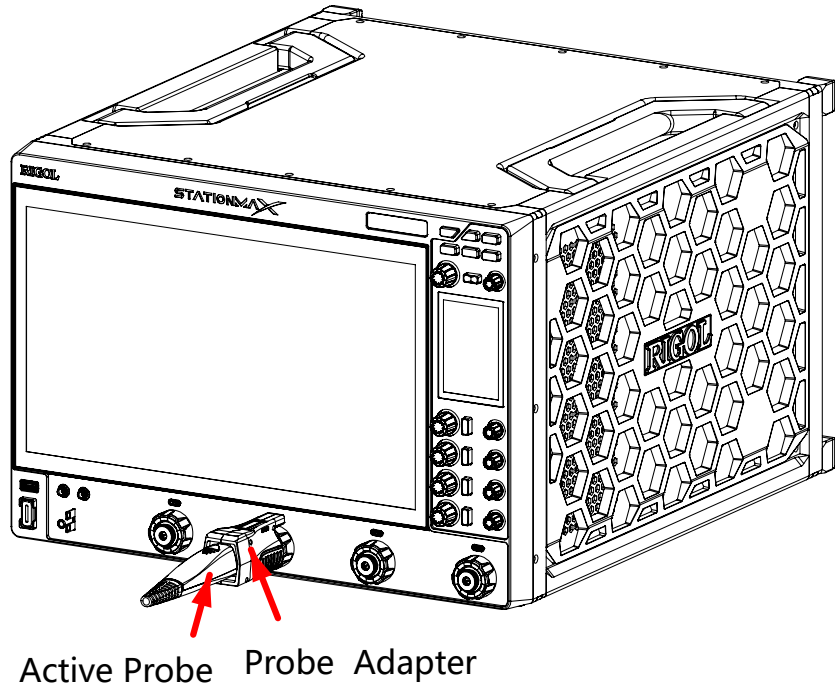

Figure 5.4 To Connect the Active Probe
2. Connect the other end of the preamp to an analog channel input terminal on the front panel of the oscilloscope via the probe converter, as shown in *Figure 5.4*.